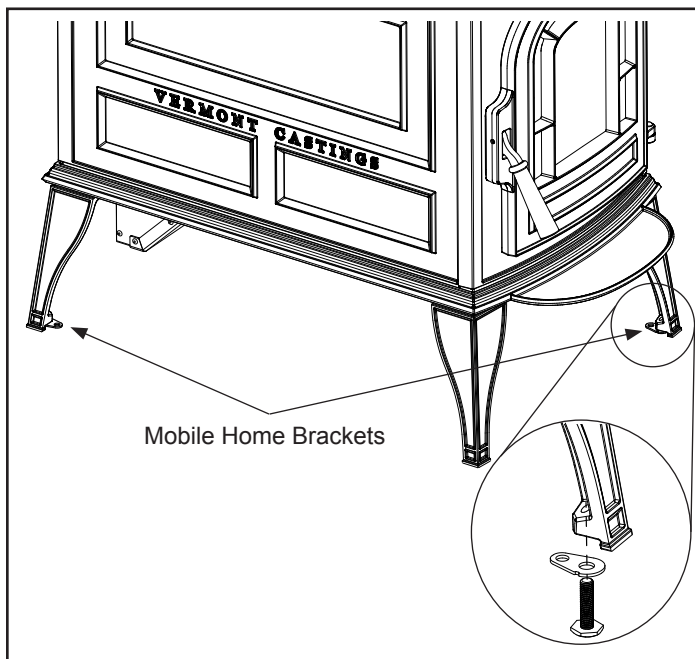

Figure 6.1
1. The stove must be permanently secured to the floor using mobile home brackets supplied along with screws or lag bolts (not supplied). Note: The Mobile Home Brackets get installed between the leg leveler and cast leg, Figure 6.1